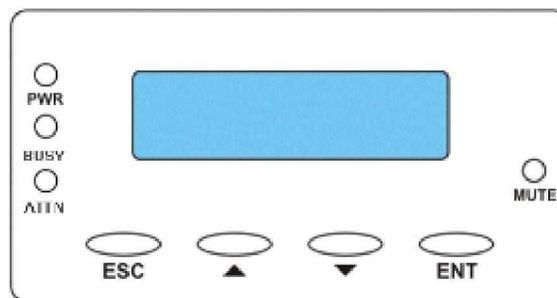

Figure 3-3: LCD Panel LEDs
The LCD keypad panel comes with three (3) status-indicating LEDs. The LEDs on the front panel are marked, from top to bottom, **PWR**, **BUSY**, and **ATTEN**, as shown in *Figure 3-3* below. The definitions of these LEDs are shown in *Table 3-5*.